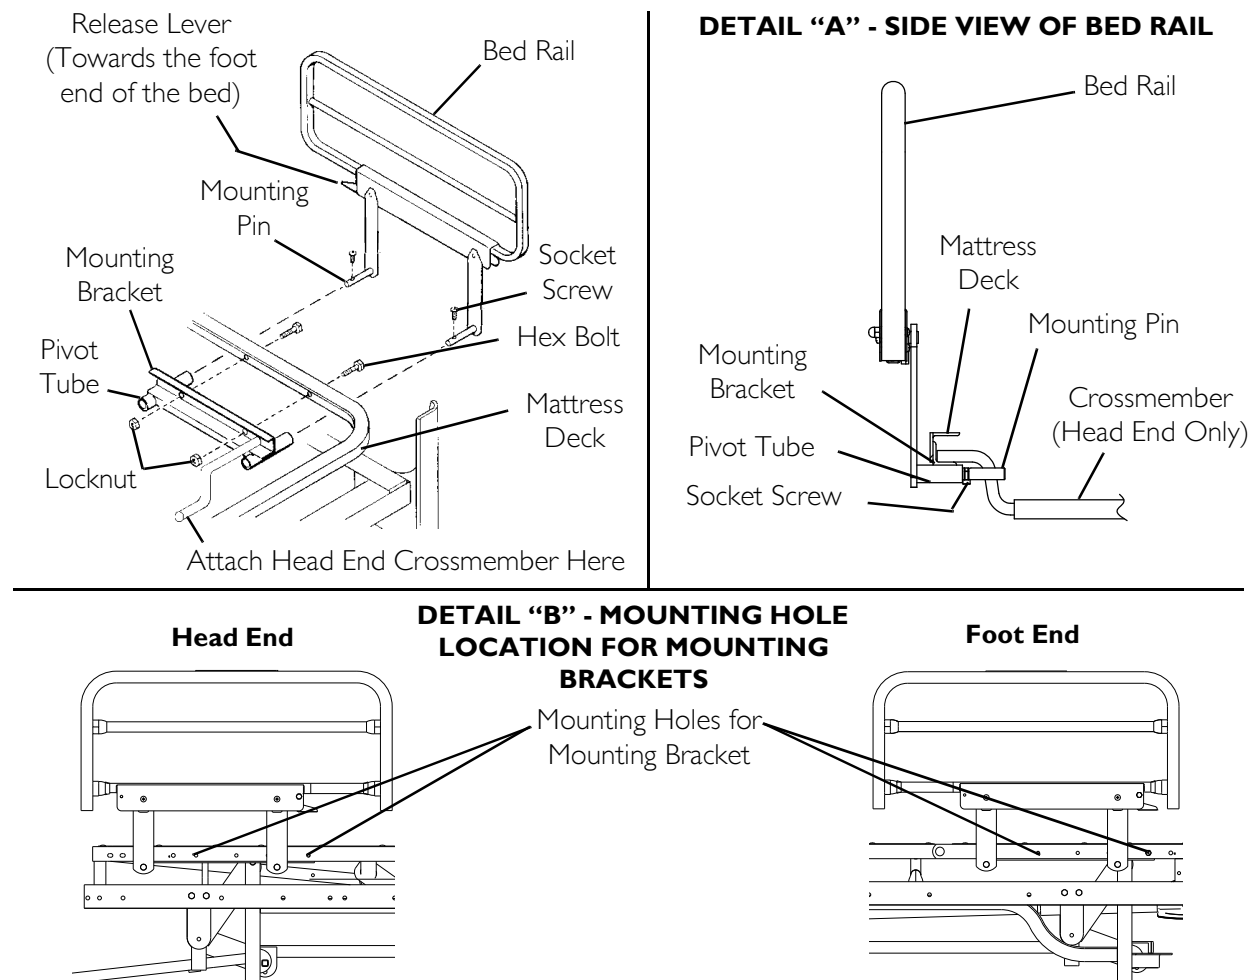

FIGURE 2 Installing 6815A, 6816A and 6803A Bed Rails
NOTE: For this procedure, refer to FIGURE 2.
2. Locate the proper mounting holes on the bed to install the bed rails. Refer to Detail "B" of FIGURE 2.
3. Position the mounting bracket on the mattress deck. Refer to Detail "B" of FIGURE 2.
- Head End Mounting Bracket Only - Position the crossmember between the two bed rails as shown in Detail "A" of FIGURE 2 on page 3.